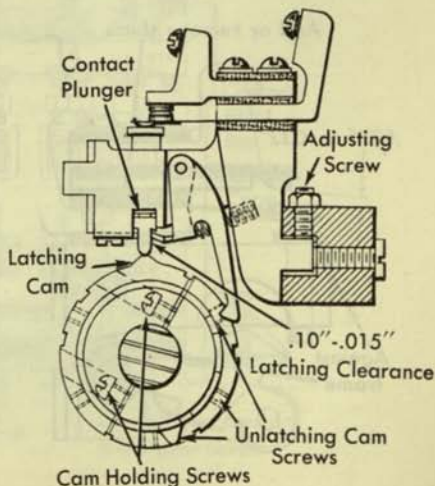

Figure 15. Latching Plunger Circuit Breaker, Adjustments 6, 7, and 8
6. Locate the cam contact unit on the mounting bar at its extreme limit of travel away from the cam (Figure 15), and with the plunger on the highest point of the cam lobe, advance the adjusting screw until the plunger latches; then advance the screw one-half turn additional to obtain a .010" to .015" movement of the plunger beyond the latch point. This will provide clearance between the low dwell of the cam and the plunger.
7. To adjust the make time of the contact, loosen the screws holding the cam to the shaft (Figure 15)
8. To adjust the break time of the contact, loosen the contact unlatching cam screws (Figure 15). Turn the machine to the proper index point and move the unlatching cam in its slot until the contact opens. Tighten the holding screws. There are six possible positions for holding screws, only two of which will be used at any one time.